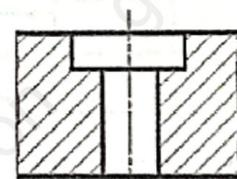

Figure 18
23. The name of the hole shown in figure 18 below is a